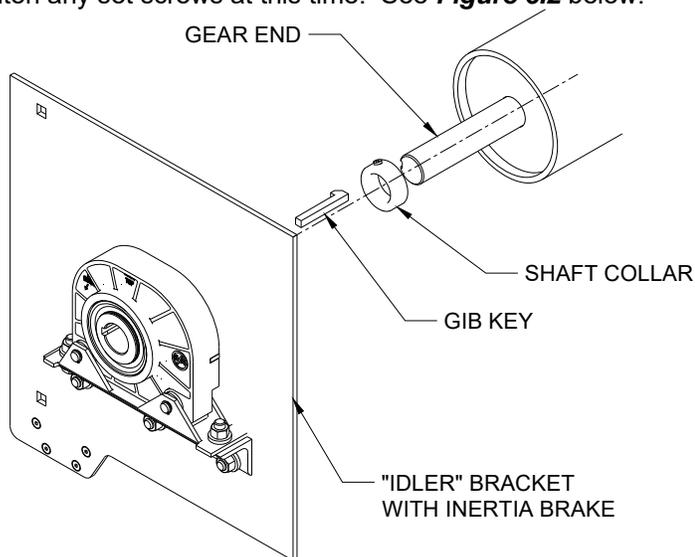

Figure 6.2 – “Idler” Bracket Attachment (right hand operation shown)
5. Prior to installing the idler bracket onto the shaft, install the provided gib key and collar onto the shaft. To install the gib key and collar first place the collar on the idler side gear end. Place the gib key into the key way and slide the bracket onto the shaft aligning the key way of the gear end and the inertia brake. Do not tighten any set screws at this time. See **Figure 6.2** below.